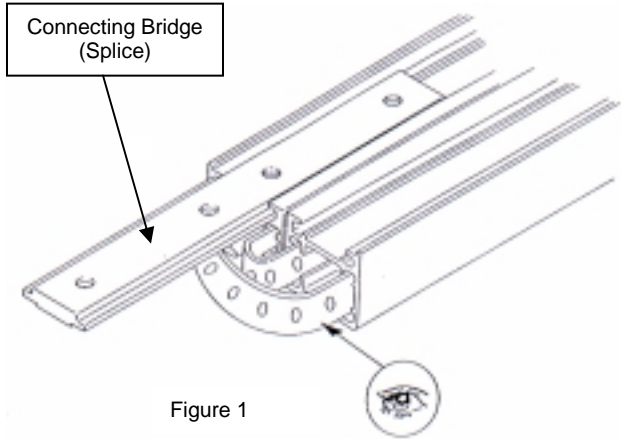

Figure 1
1. Tracks that are spliced come with the connecting bridge attached to one side of the track (figure1)